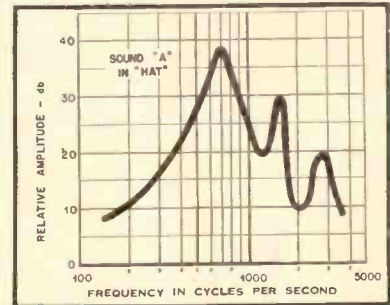

Fig. 1.
When making the sound "a" as in "hat," for instance, the resonance frequencies are roughly 750, 1500, and 2550 cps, and each of these resonances has a certain Q or efficiency factor. Figure 1 is a spectrum graph of the vowel sound in "hat." It shows the resonances and their relative Q's. The complex wave representing the sound itself will have a harmonic content depending on this spectrum. For instance, if the vocal cords are vibrating at 187 cps, the fourth harmonic (748) will be very strong, the eighth harmonic (1496) will be prominent, but less so, and the 13th and 14th harmonics (2431 and 2618) will be emphasized, but to a still less extent. If the fundamental is different, the orders of emphasized harmonics will be different, but will still be at approximately the same frequencies, because these are the speech-cavity-resonance frequencies, the formants, which always produce this particular vowel, when present in these relative efficiencies.